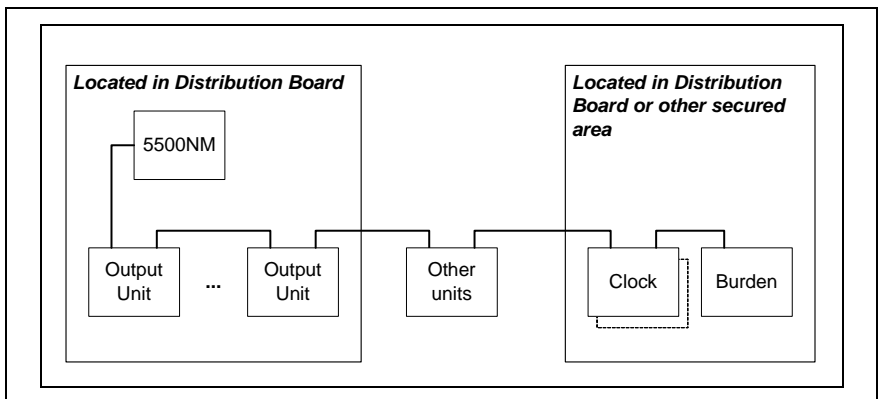
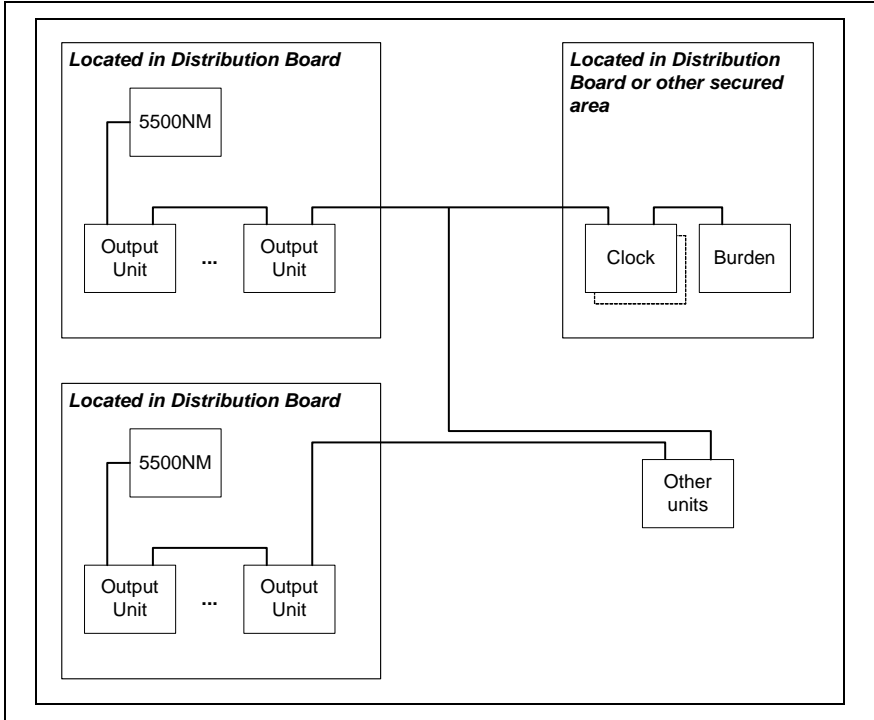

Figure 1 – Simple example of acceptable topology
Figure 2 – A more complex example of acceptable topology
- 3) Place the C-Bus Network Monitor at the opposite end of the C-Bus network to the clock generator. Figure 1 and Figure 2 show examples of suitable network topologies.